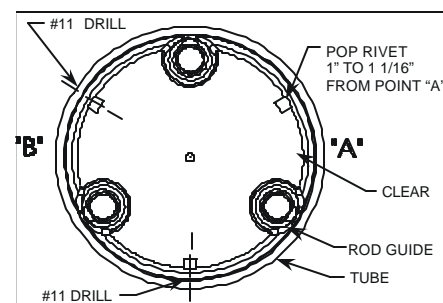

Figure 2
3. Insert the **POMECO Tank Bottom Protector** and line up the # 11 hole in the sliding rod guide with the corresponding hole just drilled in the drop tube. Make sure that point "A" is clear for future measurements of the drop tube's length. (See figure 2)